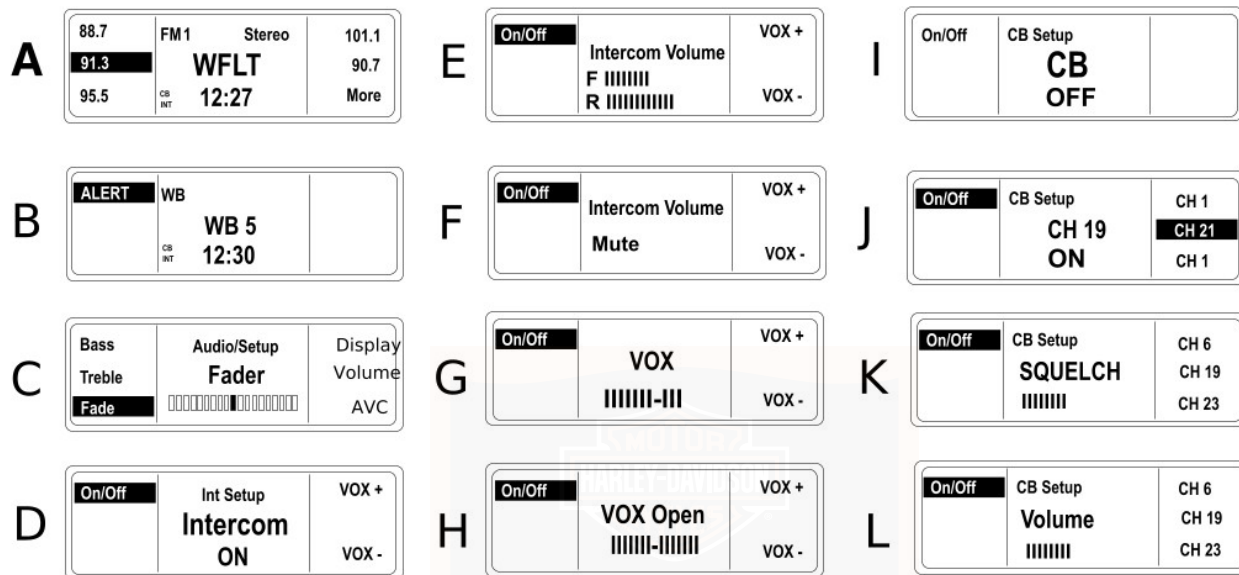

Figure 40. Display Examples
See D in Figure 40. To activate the intercom (INT) and the VOX microphones, press soft key **1** to turn the intercom ON.
See G in Figure 40. Press the **MODE SEL** switch **UP** or **DN** or press the **4** or **5** soft key to initiate the VOX display. The LCD displays VOX sensitivity as a bar graph with a smaller bar to indicate the center of the 14 bars. A higher number of bars indicates greater sensitivity while a lower number means less sensitivity.
See E in Figure 40. Enter Intercom Setup, speak into microphone and adjust the intercom volume with the **AUDIO** switch on the left hand grip. Press **AUDIO +** to raise the volume and **AUDIO -** to lower the volume. The LCD displays a dashed line that changes length with the level.
See F in Figure 40. When the headset volume has been adjusted to the bottom of its range, Mute will appear in the volume display.
See H and I in Figure 40. To activate the Citizen Band transceiver, press and release the **COM** pushbutton on the front panel. Press soft key **1** to turn the CB ON/OFF. The CB will activate in CB Setup with squelch threshold and channel settings from the previous use. CB channels are selected in CB Setup.
See J in Figure 40. With the CB on, press **COM** to enter CB Setup. The LCD displays CB SETUP in the upper half and the CB channel appears in the lower half.
See K in Figure 40. When squelch is interrupted, the CB in the display inverts. If the squelch is not interrupted and the another source is playing, CB is displayed.
See J in Figure 40. Up to 3 CB channels can be preset. Press and hold a soft key (4, 5, 6) to preset a CB channel.
See K in Figure 40. The CB signal is passed to the speakers or headsets only if signal strength exceeds the threshold set with the squelch control switch (**PTT/+SQ/-**). When CB signals exceed the threshold, they are said to "break squelch." Refer to Table 27.
Refer to Table 28. See L in Figure 40. To adjust volume of the CB in the speakers or headset, Press **AUDIO +** to raise the volume or **AUDIO -** to lower the volume. CB volume is adjustable when squelch is interrupted or when the display is in CB Setup.